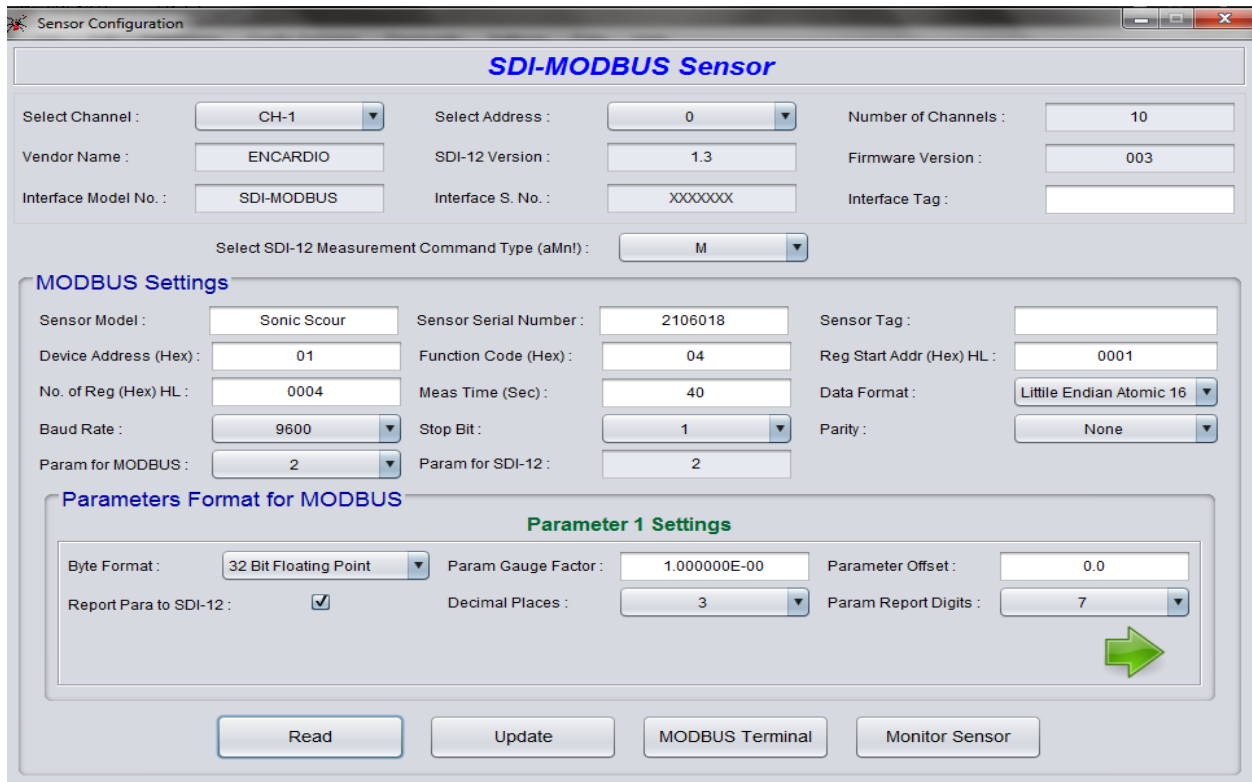

Figure 14: Sensor and Interface configuration screen
- A screen as shown in figure 14 will appear.
- In case the datalogger is not pre-configured, pressing “Read” button will not fetch any stored values. Fill in the required fields as depicted on the screen (the values of will be mostly same as shown in figure 14). Press the “Update” button. The new values will be updated into logger’s non-volatile memory.